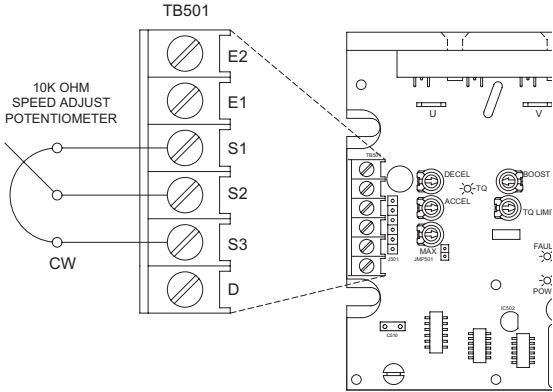

Figure 8. Speed Adjust Potentiometer Connections to TB501
Connect a speed adjust potentiometer to terminals S1, S2 and S3. Make sure the potentiometer is connected so that the motor speed will increase as the wiper (S2) is turned clockwise (CW). See Figure 8 below.